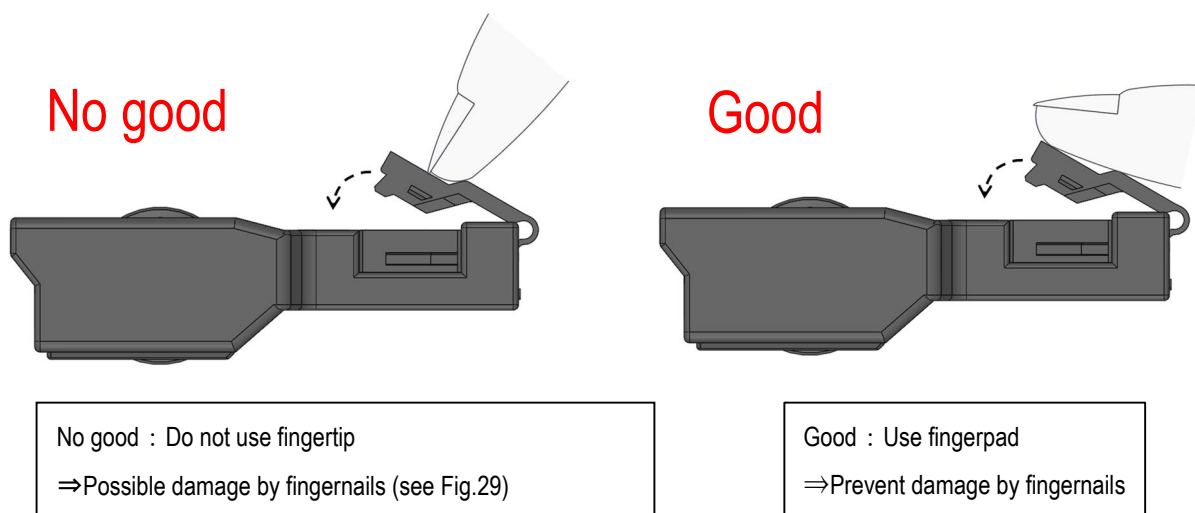

Fig.28. Precautions for the secondary lock part installation
- ④ Do not use fingertips to install secondary lock parts as shown in Fig. 28.